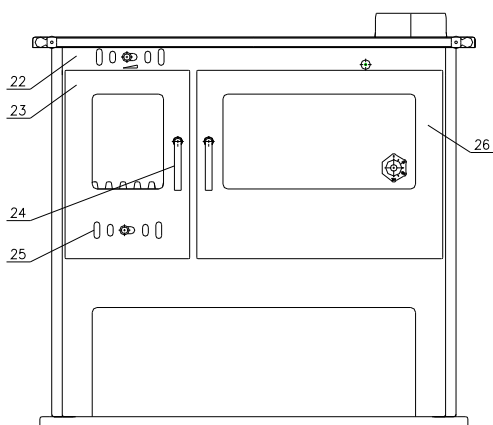

Figure 3 (rest parts in figure 2)
The primary air is required for the quick start of the fire. The primary air passes through the ash pan, the bottom grate and goes into the firebox. Adjusting the quantity of the primary air supply during the burning process is made with air regulator (fig. 3, pos. 25).